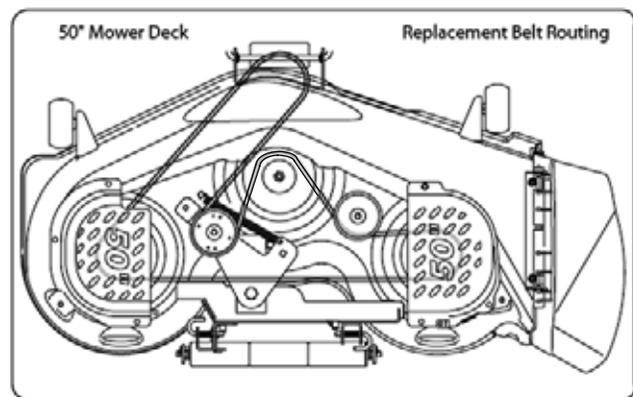

Figure 8.6
- For a 50" deck, See Figure 8.6.